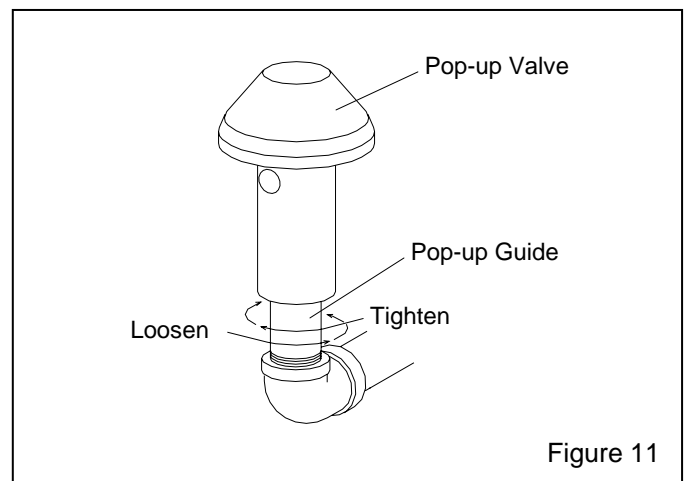

Figure 11
6.8 Replacing The Pop-Up Valve, Figure 11